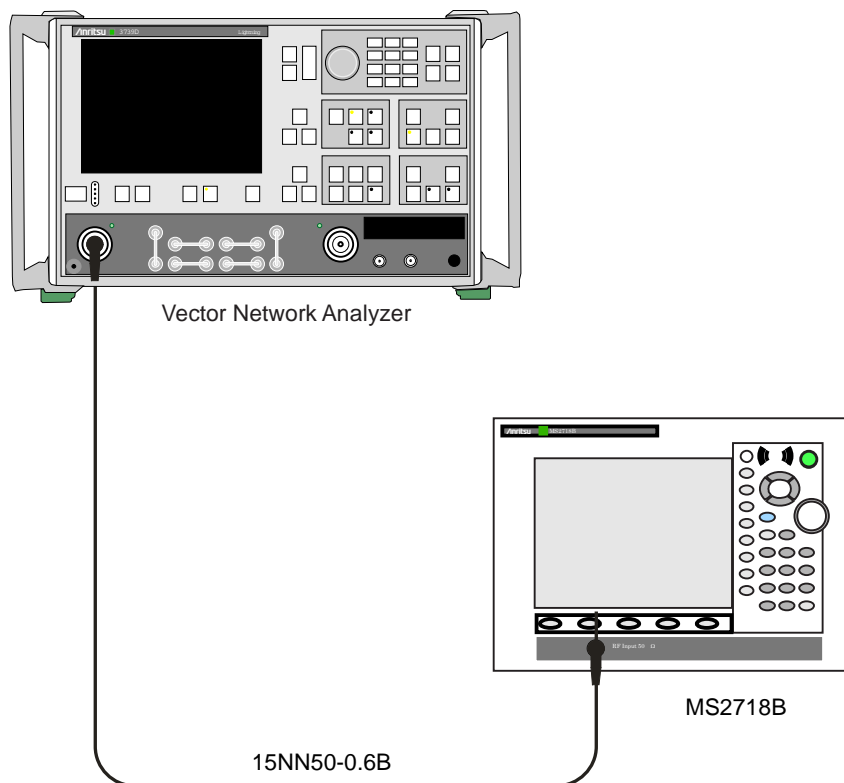

Figure 2-11. RF Input VSWR Test Setup
13. Set the MS2718B, MS2719B to Spectrum Analyzer mode, then press **Shift** and press **Preset** (1) to preset the MS2718B, MS2719B, then set up the MS2718B, MS2719B as follows:
14. Connect the MS2718B, MS2719B Spectrum Analyzer RF In connector to the end of the 15NN50-1.5B cable where the calibration was performed, as shown in Figure 2-11.